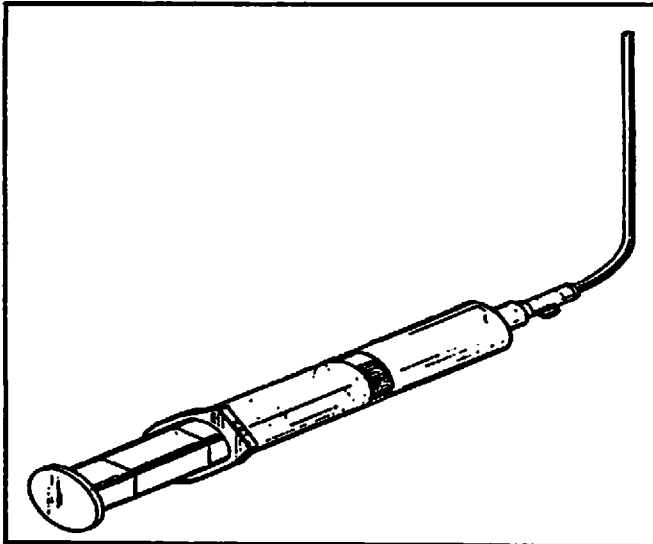

Figure 5-2. Open-ended AIL Simulator
4. Install the open-ended air-in-line simulator (see Figure 5-2) in the AIL detector block and raise the fluid level above the AIL detector block.